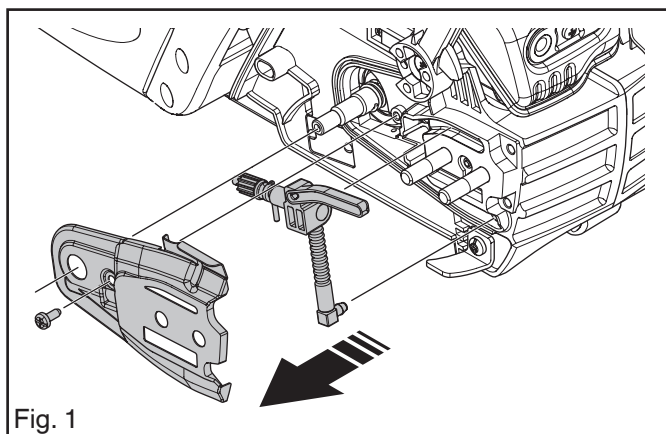

Fig. 1
5. Fit the oil pump system as outlined in Figure 1.